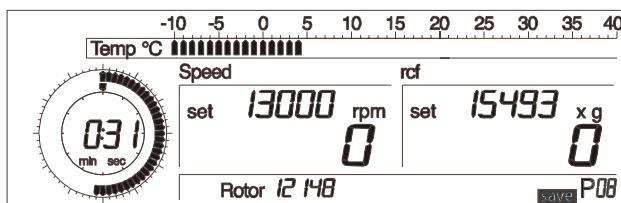

Fig. 5.19: Saving programs;
- Turn the left rotary knob until “save” appears on the display (Fig. 5.19).